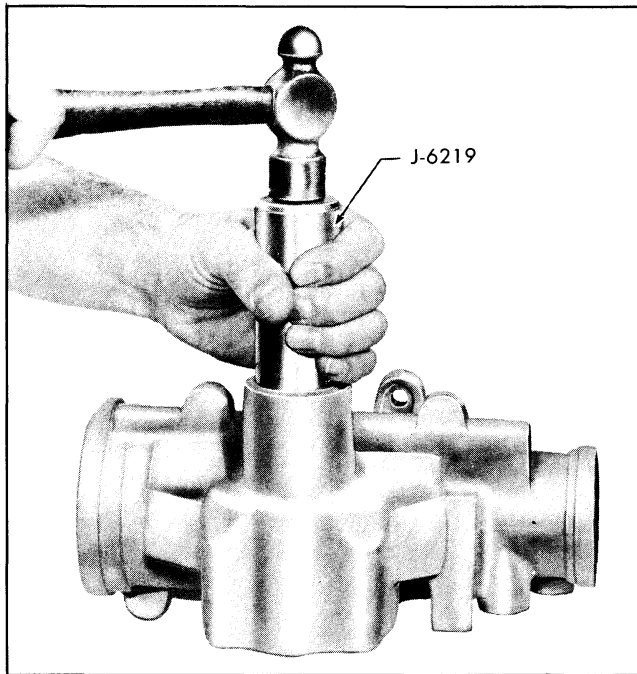

Fig. 9A-24 Installing Pitman Shaft Seals Using J-6219
4. Fill one-half of ball return guide with the remaining 7 balls. Place the other guide over the balls and plug each end with heavy grease to prevent the balls from falling out when installing guides into rack-piston nut (Fig. 9A-27).